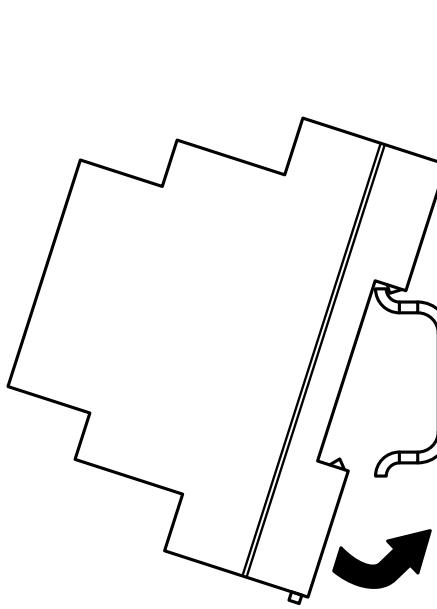
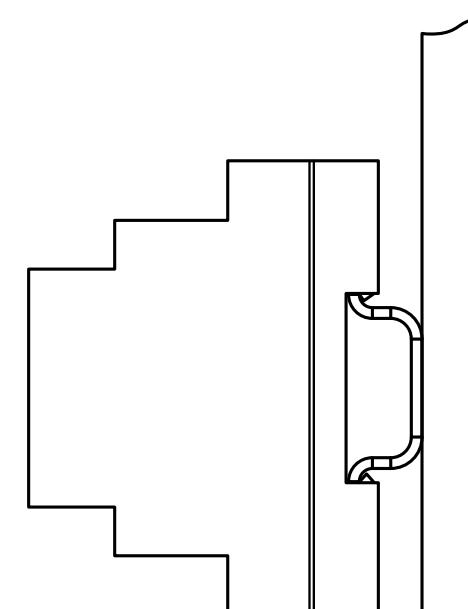
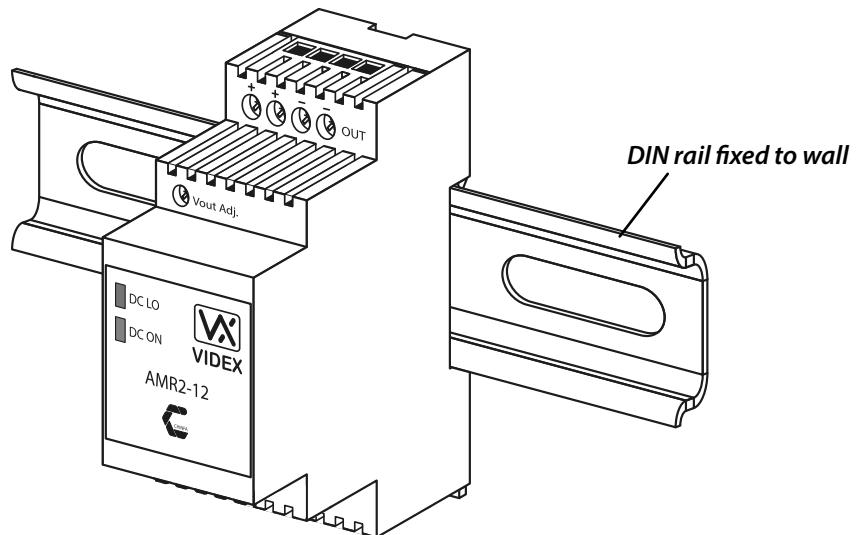

Fig.20A
Fig.20B
Fig.20C
- Fix the power supply to a DIN rail (*following Fig.20A, Fig.20B and Fig.20C*).